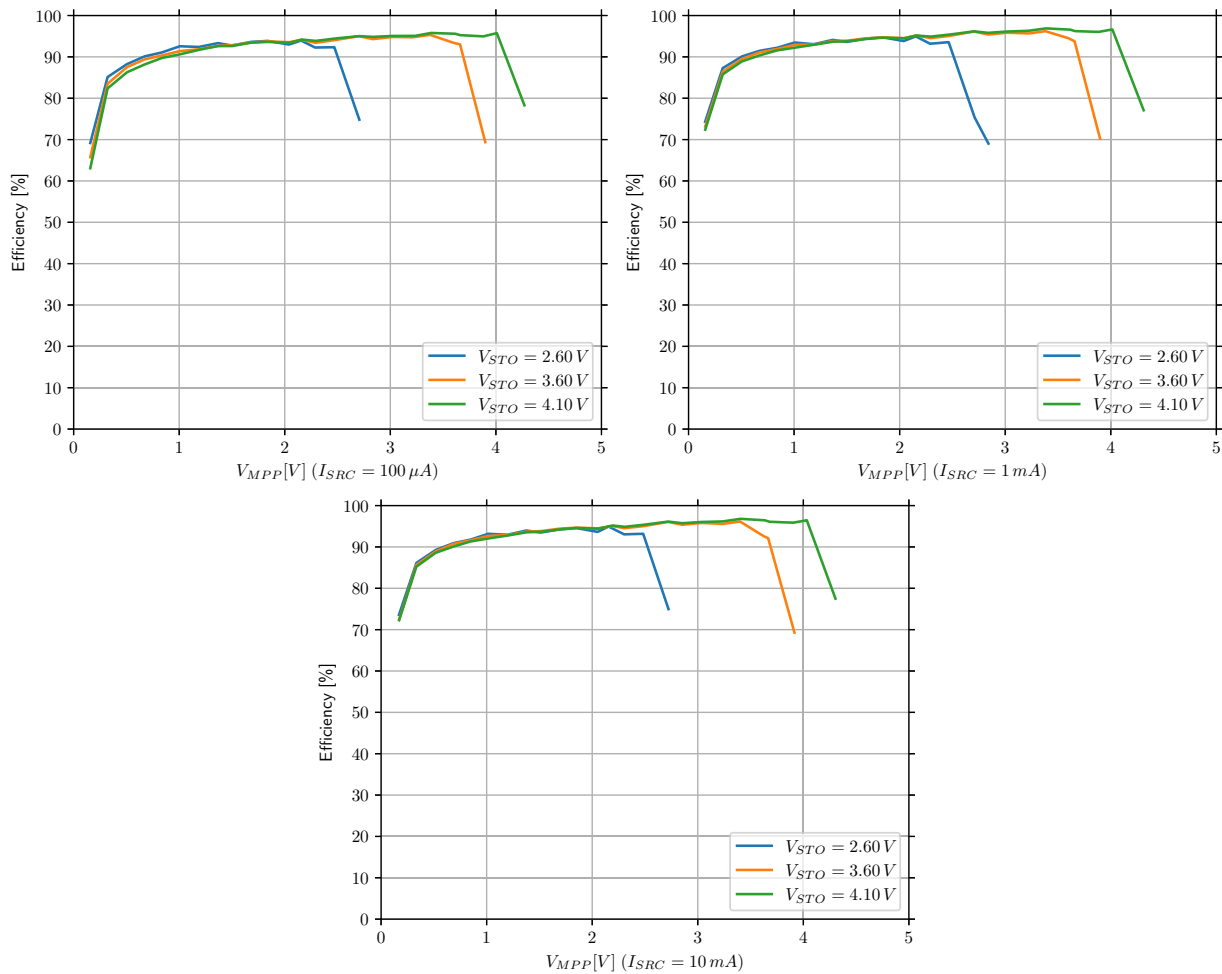

Figure 7: Boost converter efficiency with $L_{BOOSTx} = 33 \mu\text{H}$ (Coilcraft LPS4018-333MRB), $BSTxCFG.TMUL = 0x02$ (x3)
- Optional: a device able to act as an I²C master and send I²C commands to the AEM13920. Only useful when testing settings that are not accessible through the configuration pins, such as boost timings. Please note that, the results shown on Figure 7 are with x3 boost timing, which has to be set to this value through I²C communication.